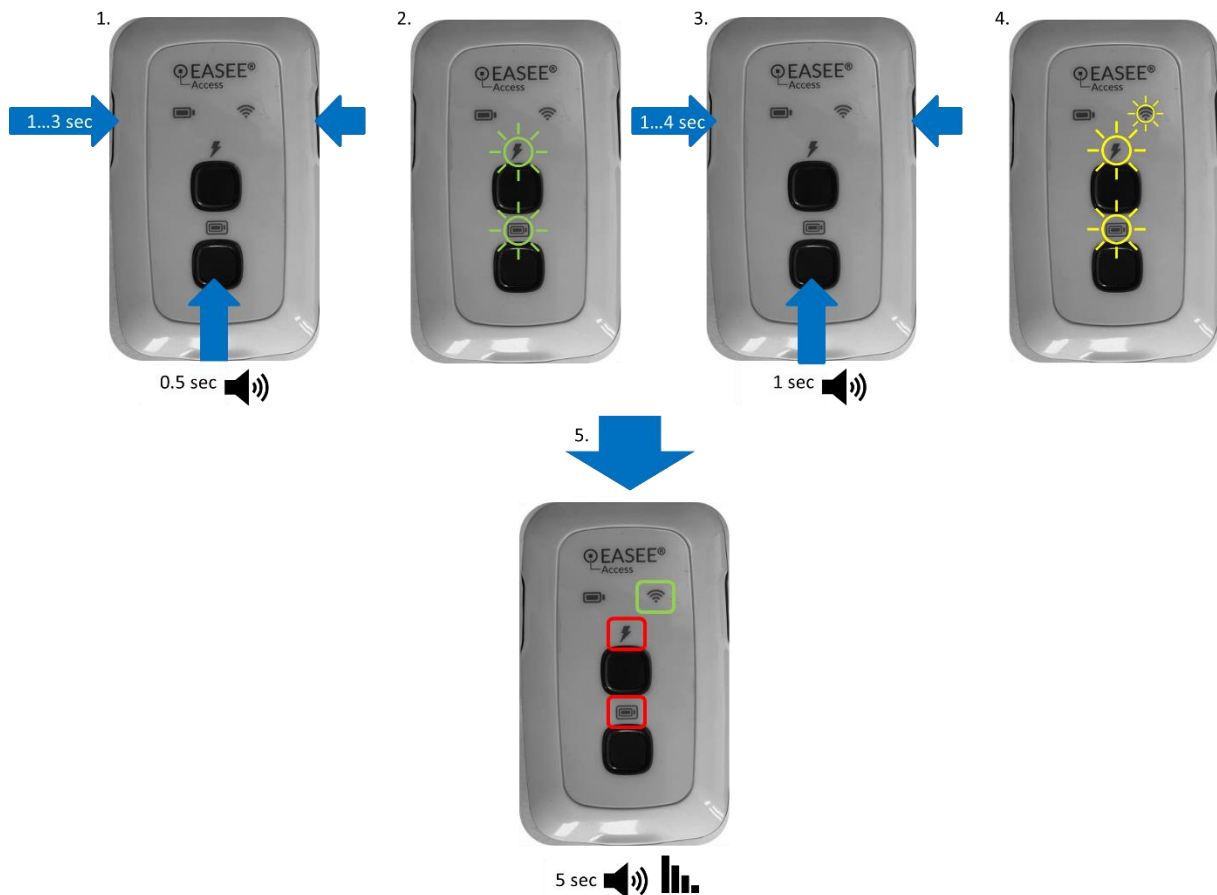

Figure 1 Sequence of commands for turning EASEE® Power off.
- In case your treating neurologist is not present: Please use your patient controller EASEE® Access to turn off the implant (see Figure 1 on page 9).